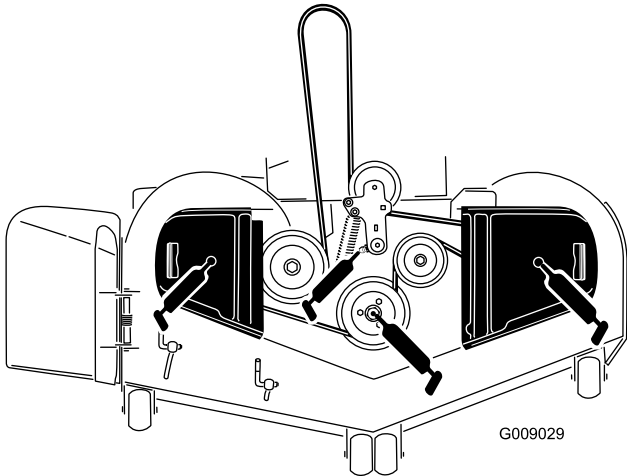

Figure 42
3. Grease the mower deck idler pulley pivot until grease comes out the bottom (Figure 42).
5. For machines with 72-inch decks only, grease the 3 spindle bearings until grease comes out the lower seals (Figure 42).
6. Grease the drive belt idler arm (Figure 42).